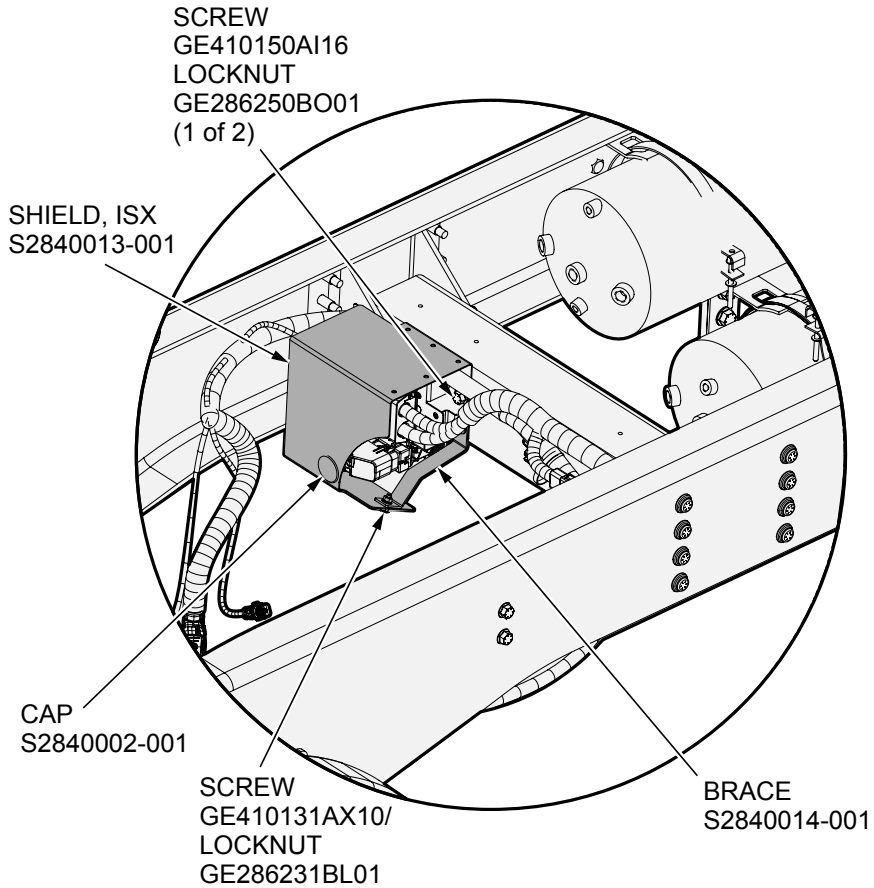

Figure 9, TCM Shield Installed
10. Install the TCM shield (S2840013-001) by sliding it up and behind the TCM and installing 1 screw (GE410150AI16) and 1 locknut (GE286250BO01) into the upper mounting hole. Tighten the locknut to 90 ft-lbs (122.0 Nm) of torque (see Figure 9).
11. Install the TCM shield brace (S2840014-001) with 1 screw (GE410131AX10) and 1 locknut (GE286231BL01) and tighten to 15 ft-lb (20.34 Nm) of torque. Install 1 screw (GE410150AI16) and 1 locknut (GE286250BO01) into the lower mounting hole and tighten the locknut to 90 ft-lbs (122.0 Nm) of torque (see Figure 9).
14. Install the TCM shield cap (S2840002-001) (see Figure 9).